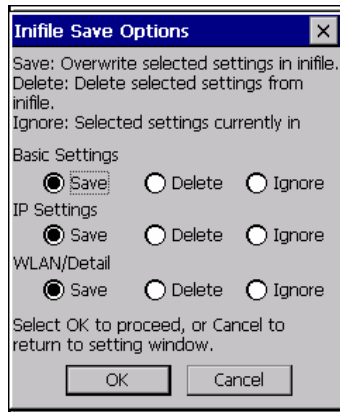

Figure 4.9
6. If **OK** button in the popup warning message (see Table 4.7 for description of NetUI/NetUI radio button) is clicked, the screen in Figure 4.9 appears. Click **OK** button to perform a reset on the terminal so that the setting takes effect.